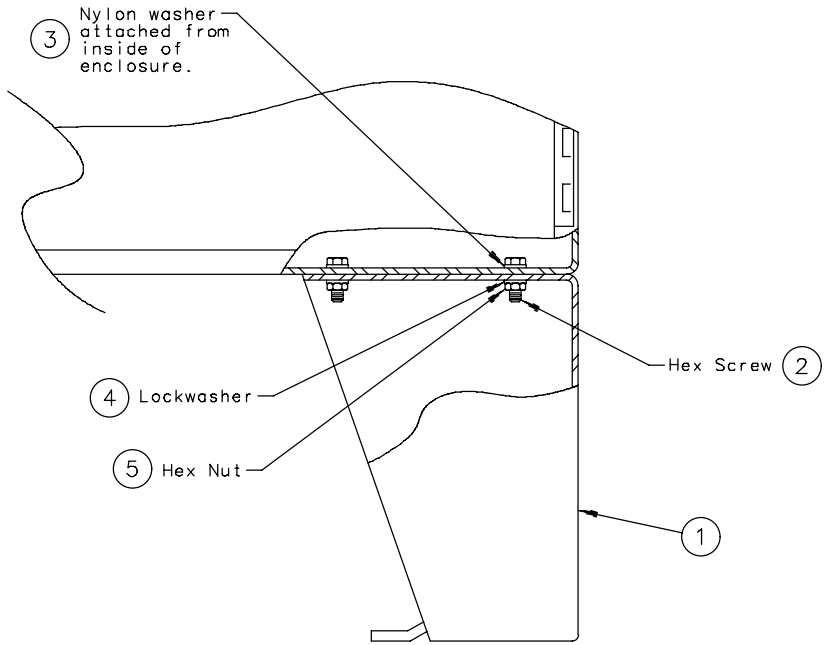

Figure 3
- Bolt the floor stand to the enclosure as shown in figure 3 using the 3/8-16x.75 hex head screws, washers, and nuts provided. Firmly tighten all fasteners.